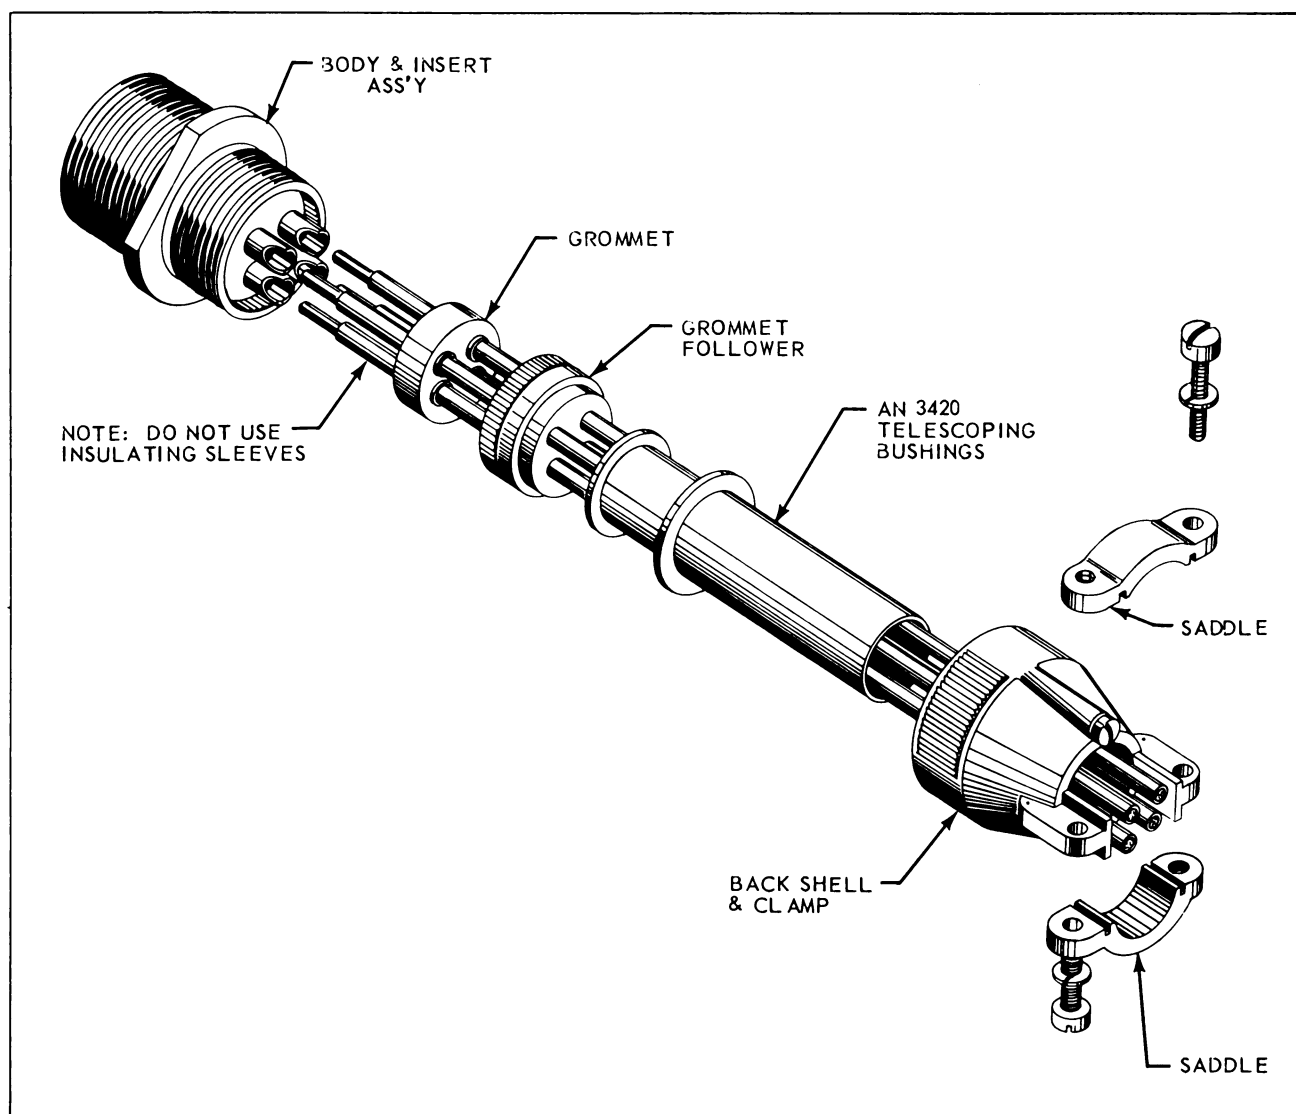

Figure 3-62. Installation of Cannon Class E Connector
- c. Thread pre-tinned wires through grommet follower and also through grommet. Note relationship of grommet follower and grommet in Figure 3-62.